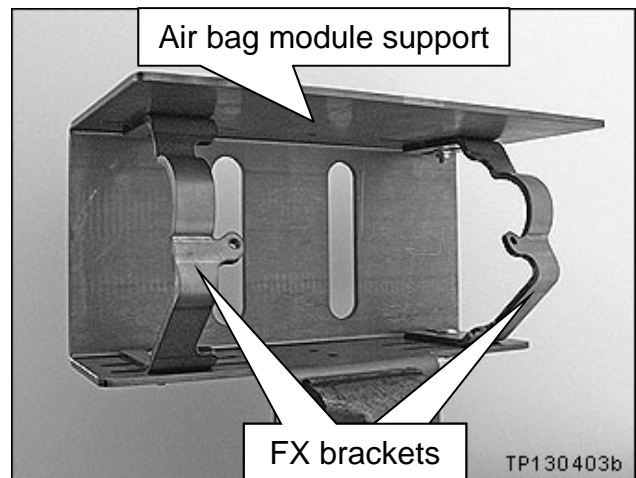

Figure 17
17. Attach the FX brackets to the air bag module support, as shown in Figure 17.